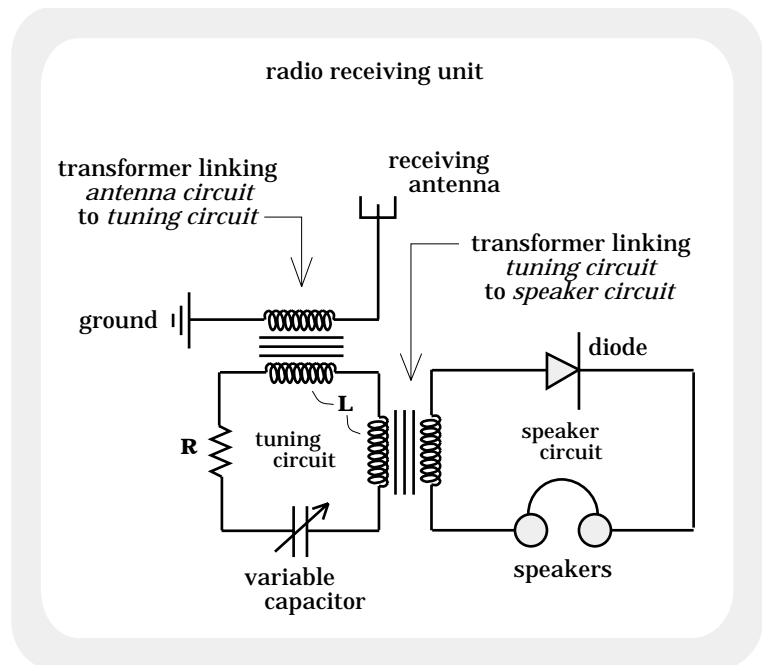
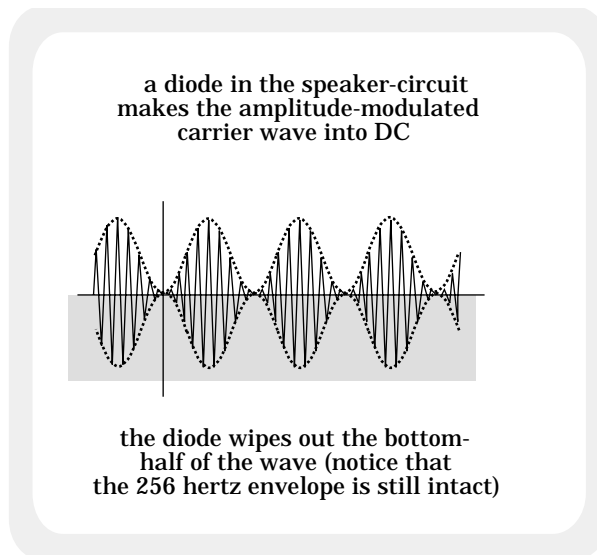

FIGURE 21.12
FIGURE 21.16
Note: The circuit for a simple AM radio is shown in Figure 21.12. A discussion of its workings is provided below:
By varying the capacitance of the capacitor in the tuner circuit (the capacitor symbol in Figure 21.12 is that of a variable capacitor), the natural frequency of the tuner current changes and different stations can be "tuned in."
7.) The Speaker Circuit: The problem outlined in Part 6 above is circumvented ingeniously with the use of a diode. The diode in the speaker circuit (Figure 21.12) turns the high frequency AC signal into a DC signal (see Figure 21.16). It is lumpy DC, but it is DC nevertheless. As such, the speaker now has a chance of dealing with the information placed on the carrier wave:
1.) The radio receiver circuit shown in Figure 21.12 uses no batteries. The speaker in such circuits is a tiny, single, ear-plug type. All the power needed to drive it is provided by the electromagnetic wave impinging on the